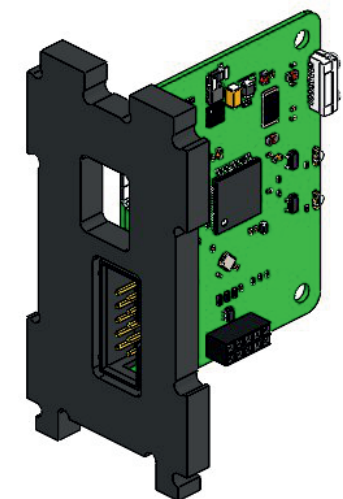

Fig. 66: Mounting the board with a rear wall
2) Align the circuit board with the rear wall (marked "HF") (Fig. 66):